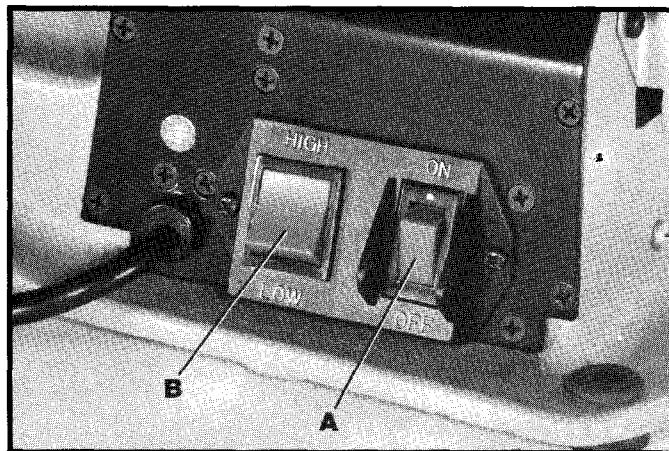

Fig. 18
The on-off switch (A) Fig. 18, and two-speed switch (B) is located on the left side of the scroll saw base, as shown. To turn the saw "ON" move the switch (A) to the up position and to turn the saw "OFF" move the switch to the down position.
This scroll saw is supplied with two cutting speeds of 850 and 1725 cutting strokes per minute. To operate the saw at the 850 cutting strokes per minute speed move switch (B) Fig. 18, to the down (low) position and to operate the saw at the 1725 cutting strokes per minute speed move switch (B) to the up (high) position.